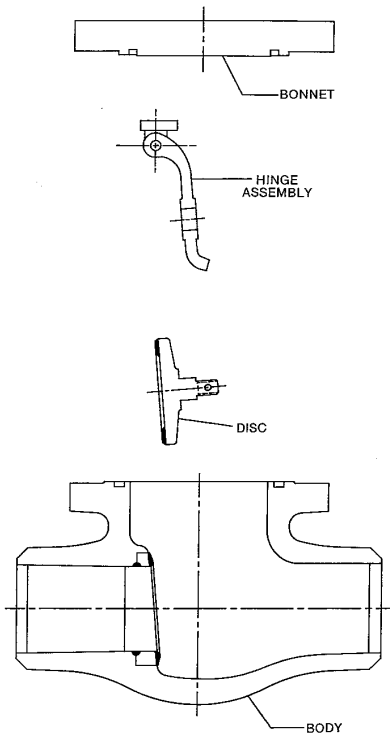

Figure 1
1.2 Principles of Operation (Fig. 1)